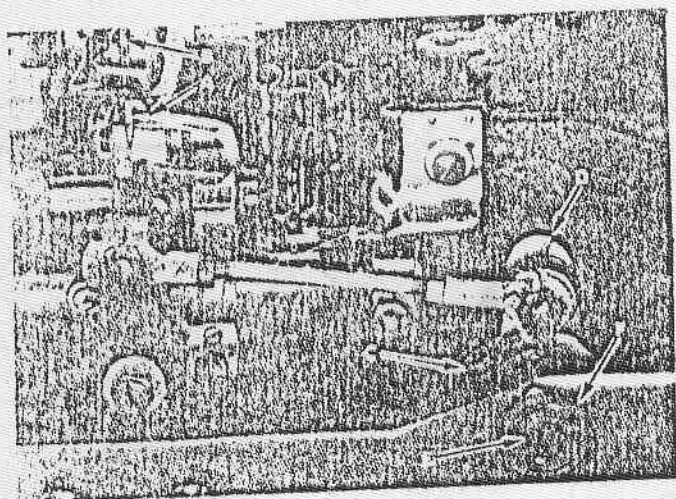
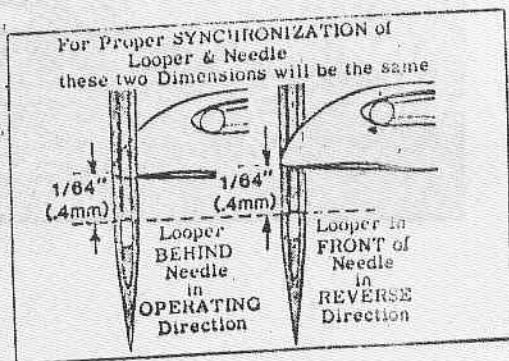
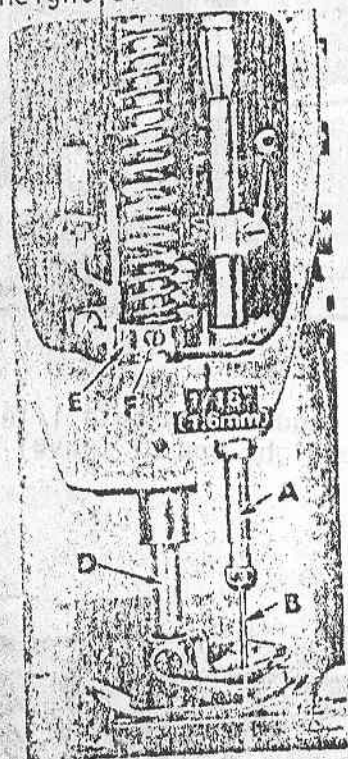

Fig. 3
Fig. 4
Fig. 8
Turn handwheel in the operating direction until the point of the looper (A, Fig. 3) moving to the left, is even with the left side of needle (B). Note the height of the eye of the needle with respect to the looper point (See Fig. 4). Turn the handwheel in the reverse direction until the point of the looper again moving to the left, is even with the left side of needle (See Fig. 4). If the height of the eye of the needle with respect to the looper point are the same, looper and needle motions are synchronized - a variation of .005 inch (.127mm) is allowable. If the distance from the eye of the needle to the point of the looper is greater when the handwheel is turned in the operating direction, the looper
NOTE: The 1/64 inch (.4mm) dimension shown in Fig. 4 is for final setting of needle bar height.
Loosen screw (C, Fig. 3) in looper drive lever (D). A rod of .146-40 thd. or Union Special Screw No. 22870 A can be threaded into the looper drive lever rocker shaft through the center of thrust adjusting screw (E). Tap or pull slightly as required to position shaft for proper synchronization. Tighten screw (C) securely and remove rod or screw used to position shaft.
Height of needle bar (A, Fig. 8) is correct when the top of the eye of needle (B) is $1/64$ inch (.4mm) below the underside of looper as shown in Fig. 4. Adjustment can be made by loosening screw (C, Fig. 8), move needle bar (A) up or down as required, retighten screw.
Height of presser bar (D, Fig. 8) is set correctly if it is possible to remove the presser foot when the foot lifter lever, located at the back of the machine and extending above the upper crank chamber cover is fully actuated (pulled to the right). There should be approximately 1/16 inch (1.6mm) clearance between lower surface of the presser bar connection and guide (E) and bottom surface of head opening in the bed when foot lifter lever is released and presser foot lying flat on the throat plate with feed dog below throat plate.